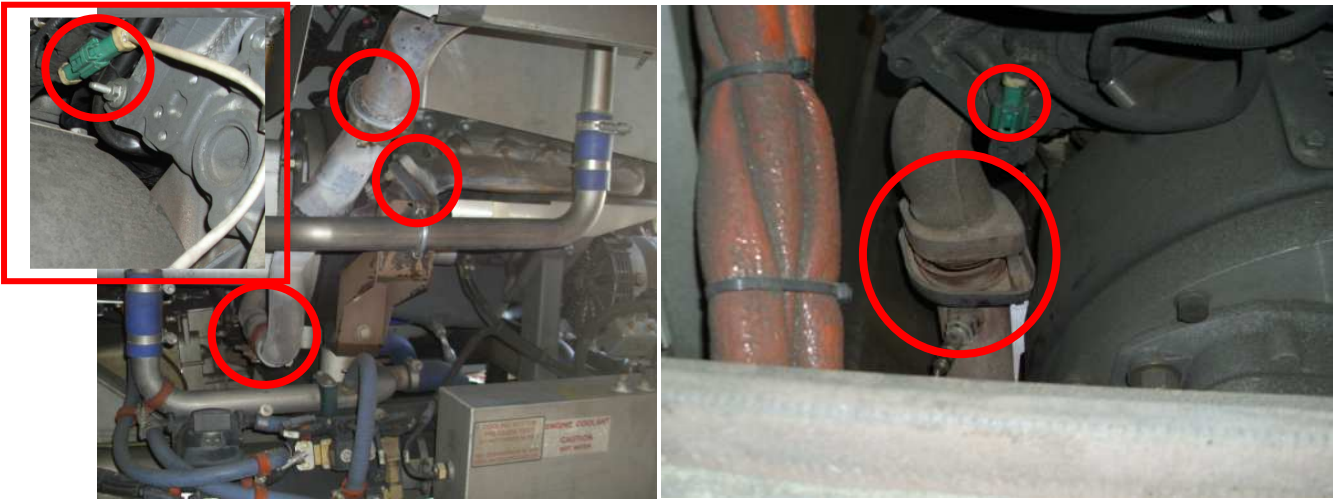

Figure 6: CS/SS Y-Pipe Connections
- a. Disconnect O2 Sensors, loosen the exhaust Y-Pipe exhaust connections, and remove Y-Pipe. Fig 6